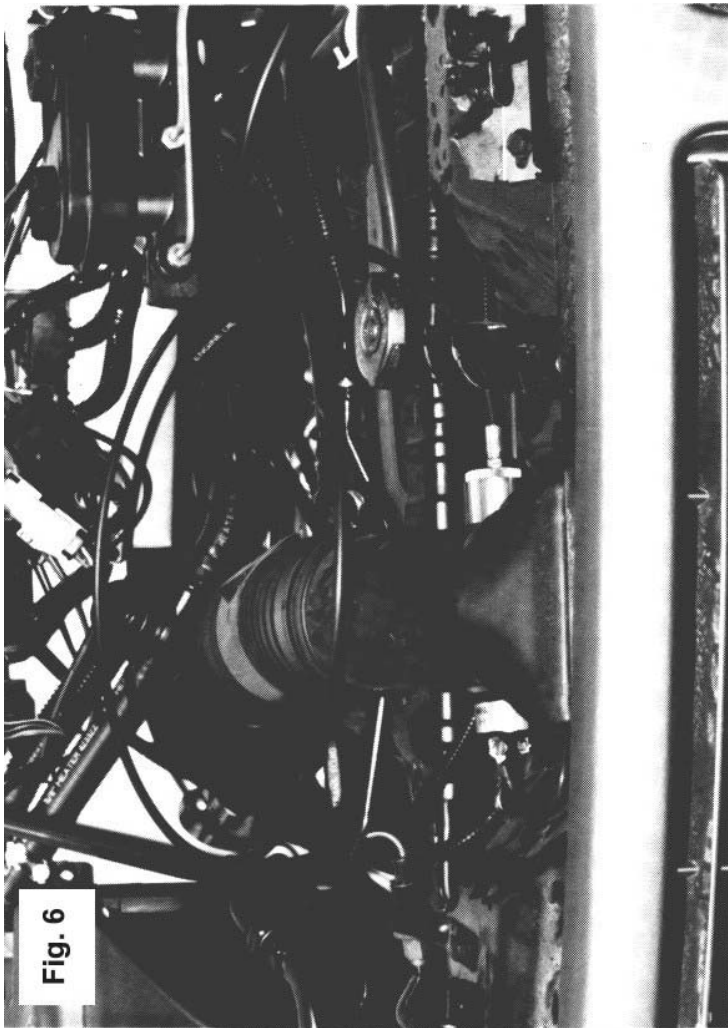

Fig. 6
- 13) Mount solenoid on radiator support under air duct as shown in fig. 6. Use one of the mounting screws to ground the negative terminal on the solenoid.